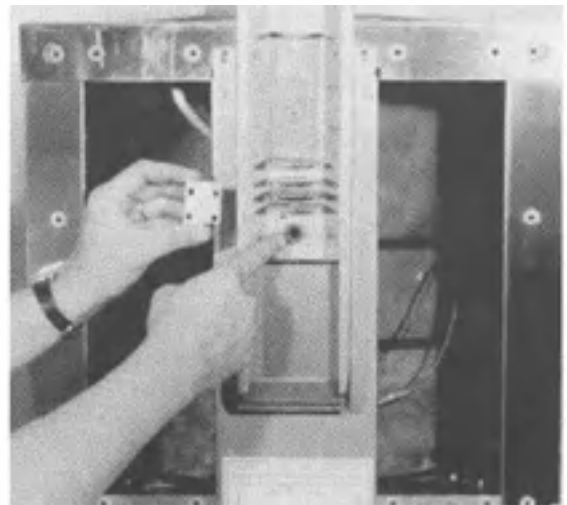
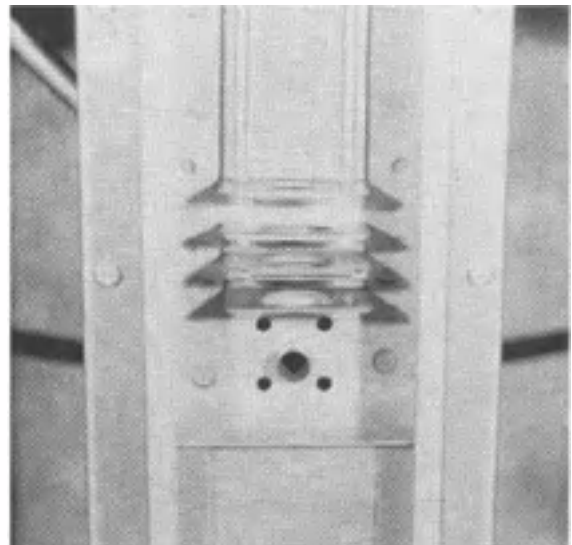

FIG.29
FIG.30
8. Remove vent tube O-ring and save for reuse (See Figure 29).
9. Remove the four (4) screws securing vent assembly to rear of fryer and save for reuse. Leave vent block nut plate on vent tube for further use.
13. Replace the four (4) screws securing vent assembly to rear of fryer. **NOTE:** Vent tube must protrude through vent assembly at least 1/2" (See Figure 30).
14. Connect the two (2) solenoid wires to harness wires.